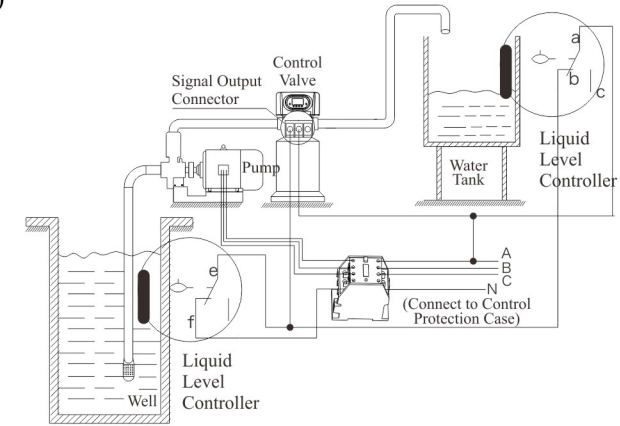

Figure3-6 Wiring of Liquid Level Controller in Water Tank Controls Inlet Pump
3) Liquid Level Controller in Water Tank Controls Inlet Pump (Three-phase, refers Figure 3-6) (Set b-01)